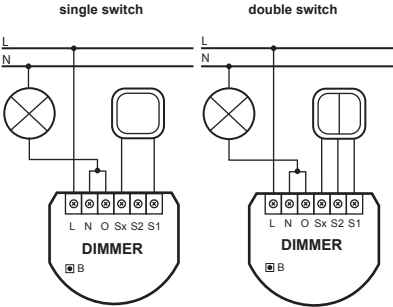
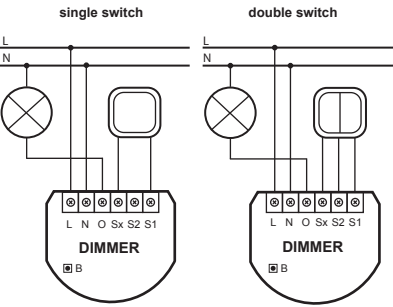

Fig.1 Electrical diagram for connecting the Dimmer - 2-wire connection
Fig.2 Electrical diagram for connecting the Dimmer - 3-wire connection
4. Arrange the antenna (tips are presented below diagrams of fig. 1 and 2)
Connect the device in accordance with the circuit diagram presented in Fig. 1. or Fig. 2. Switch on the mains voltage of 230V.